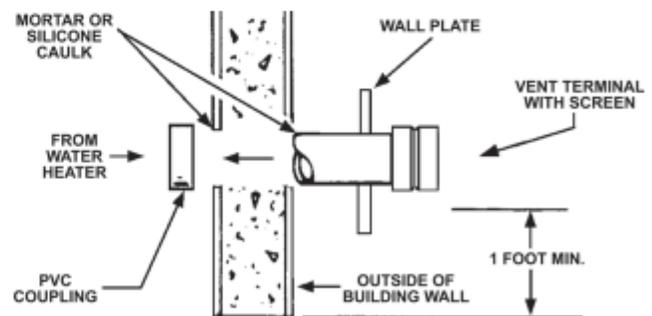
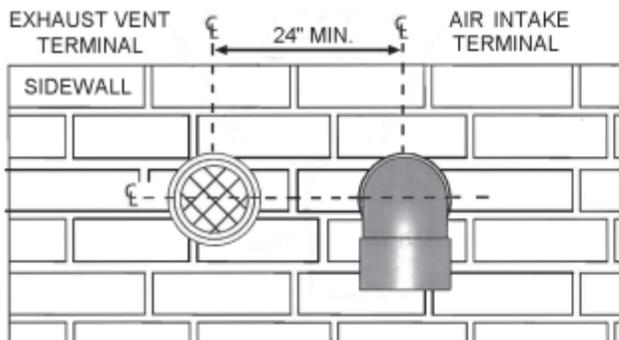

Figure 13: VENT TERMINATION
Figure 14A
2. Through-the-Wall Termination - horizontal vent termination directly through an outside wall, see Figure 13 on Page 27.
The first step is to determine where the vent pipe will terminate. See Figure 13, Figure 14A, and Figure 15. The vent may terminate through a sidewall as shown in Figure 13, Figure 14A and Figure 15 or through the roof as shown in Figure 18, Figure 19 and Figure 20.
Instructions on proper installation through a sidewall are provided in Figure 13, Figure 14A, and Figure 15.
Cut a length of pipe about 3.5 inches (8.9 cm) longer than the wall thickness at the opening. Glue the vent terminal to this section of pipe. Slide the wall plate over the pipe to stop against the vent terminal. Place a bead of caulking (not supplied) around the gap between the pipe and cover plate. Apply enough to fill some of the gap between the pipe and wall. Place some of the caulking on the back of the plate to hold it against the wall after installation. If the vent pipe is installed up to the wall, with a coupling on the end against the wall opening, the pipe with the vent terminal can be prepared for gluing before inserting through the wall. Slide the pipe through the wall and insert into the coupling on the other side of the wall, making sure that the vent terminal ends up pointed in the correct position, see Figure 13.
- If the air intake pipe is installed up to the wall, with a coupling on the end against the wall opening, the pipe with the air intake terminal can be prepared for gluing before inserting through the wall. Slide the pipe through the wall and insert into coupling on the other side of the wall, making sure that the air intake terminal ends up pointed in the correct position (Figure 14A and Figure 15).